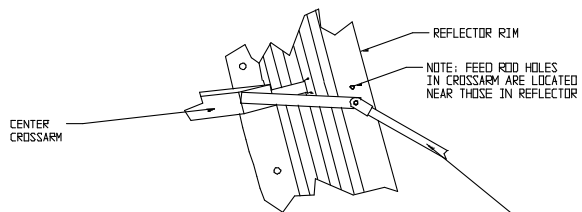

Figure 3.0-1
2. Attach the longer flat end of the feed rods loosely to the outside of the crossarm with 5/16-18 x 1.50" bolts, flat washers, lock washers and nuts. Reference Figure 3.0-1.